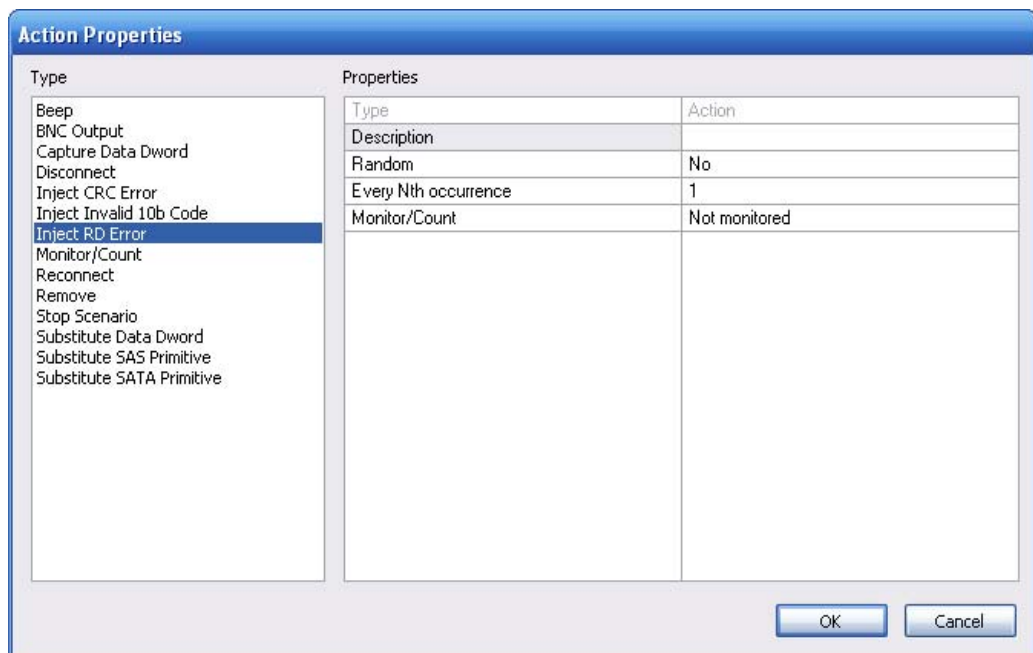

Figure 62 Example 4: Action Drop-Down List
- Step 7** The Action Properties dialog box appears (Figure 62). Use it to choose **Inject RD Error** as the action triggered by RRDY (Reserved 0).